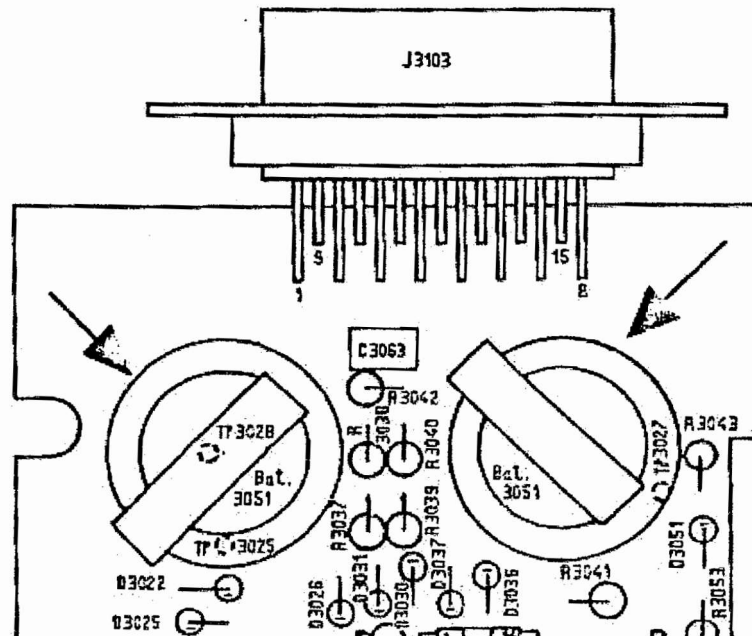

Fig 1: Location of battery Bat. 3051 on Synthesizer Module 28110 - 13000.000
5. If battery replacement is necessary, insert and solder new batteries as shown in Figures 1 to Figure 5. Ensure correct polarity!